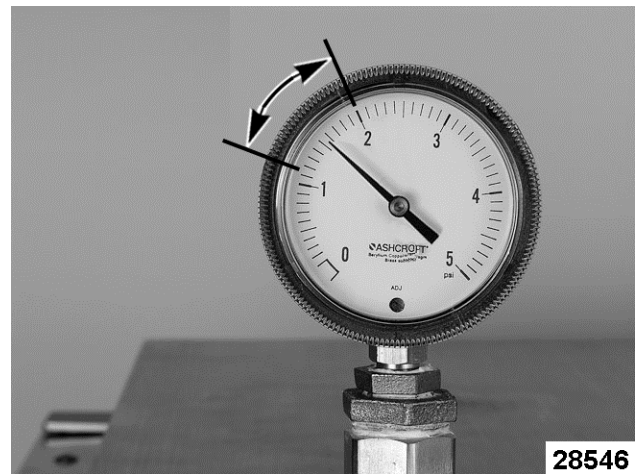

Fig. 80
- C. Observe pressure gauge Fig. 80 once steam begins to be generated. Gauge should level out at approximately 1.25 to 2.0 psi, but will oscillate with respect to fill water entering generator tank.